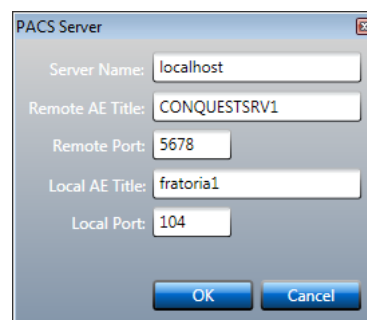

Figure 4 Add/Edit PACS Server
- data from Figure 4 entered to establish connection with PACS system(s);